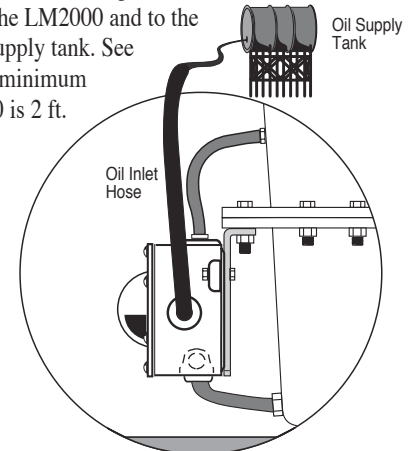

Figure 5
2. Connect a 1/2 inch I.D. (13 mm) or larger hose to the oil inlet fitting on the LM2000 and to the shutoff valve on the oil supply tank. See Figure 5. Recommended minimum height above the LM2000 is 2 ft. (0.6m); maximum 25 ft. (7.7m). The hose must maintain a downward slope and not have low spots or droops. Maximum head pressure rating is 9.50 psi or 25 ft oil (head pressure).